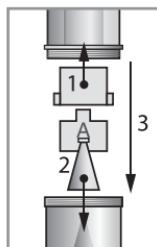

Fig. 2
- Factory installed baffle inside the nebulizer is baffle «B» (Blue), which is effective to affect the entire respiratory tract. For a more effective impact medicines on the upper respiratory tract, set, instead of the blue baffle, red baffle «C». For a more effective impact on the lower respiratory tract – baffle «A» yellow color, which consists of two parts (Fig. 2, figures indicate the order of assembly). Graphics of the differential particle size distribution by mass for different nozzles are shown in Fig. 4.